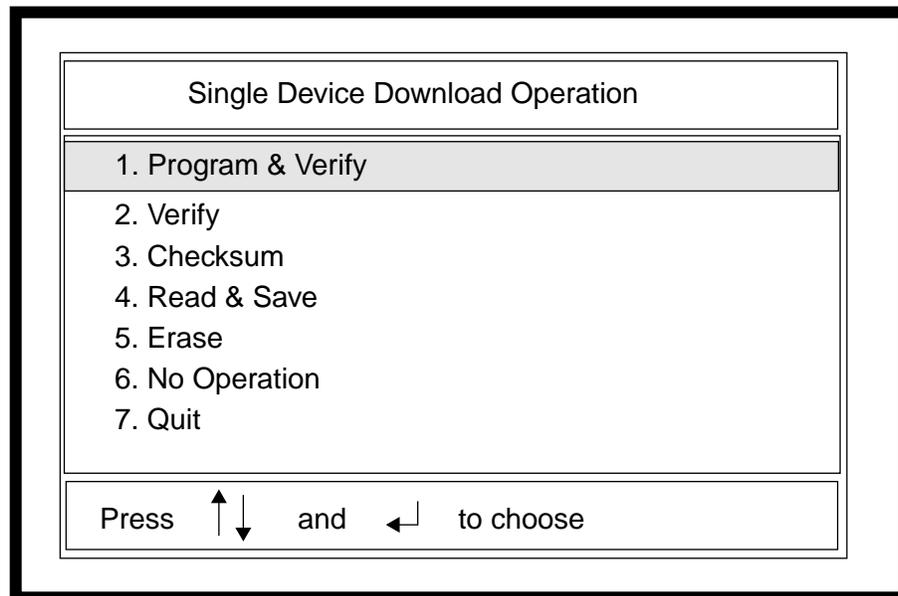

Figure 3-54. Single Device Download Screen
2. Select **1** or **S** from the Download Option menu. The Single Device Download Operation screen appears (Figure 3-54).